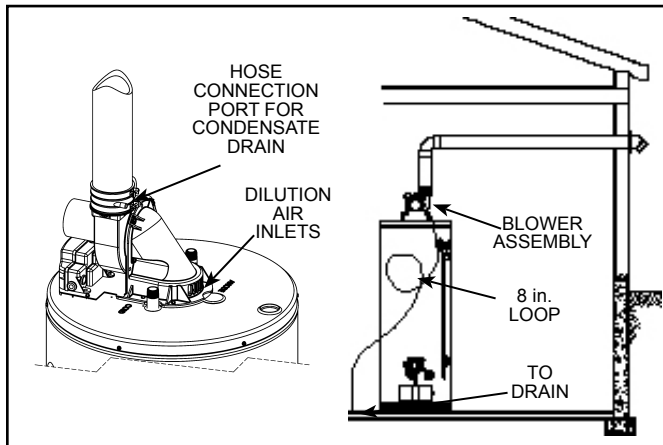

Figure 30
1. This power vented water heater comes with blower assembly installed (see Figure 30).
Condensate formation does not occur in all installations of power vented water heaters, but should be drained on installations where it can form in the venting system. Condensation in the venting system of power vented water heaters is dependent upon installation conditions including, but not limited to, ambient temperature and humidity of installation location, ambient temperature and humidity of venting space, vent discharge and slope, and product usage. In certain conditions, installations in unconditioned space or having long horizontal or vertical vent runs can accumulate condensate. Long lengths of venting that pass through cool/cold areas will experience condensation. The vent pipe should be sloped upwards away from the blower assembly, then adequate means for draining and disposing of the condensate needs to be made by the installer. If installation conditions cause condensation, install a condensate trap loop approximately 8 in. in diameter using 3/8 in. plastic hose. Connect the hose to the built-in drain port of the rubber coupling of the blower assembly (see Figure 30). Loop the hose in a vertical position as shown. The tube loop must be filled with water at least half way prior to operating the heater. Ensure the end of the tube has access to a drain as condensate will flow from the end. Secure the tubing to the side of the heater. Prior to operating the water heater, make sure